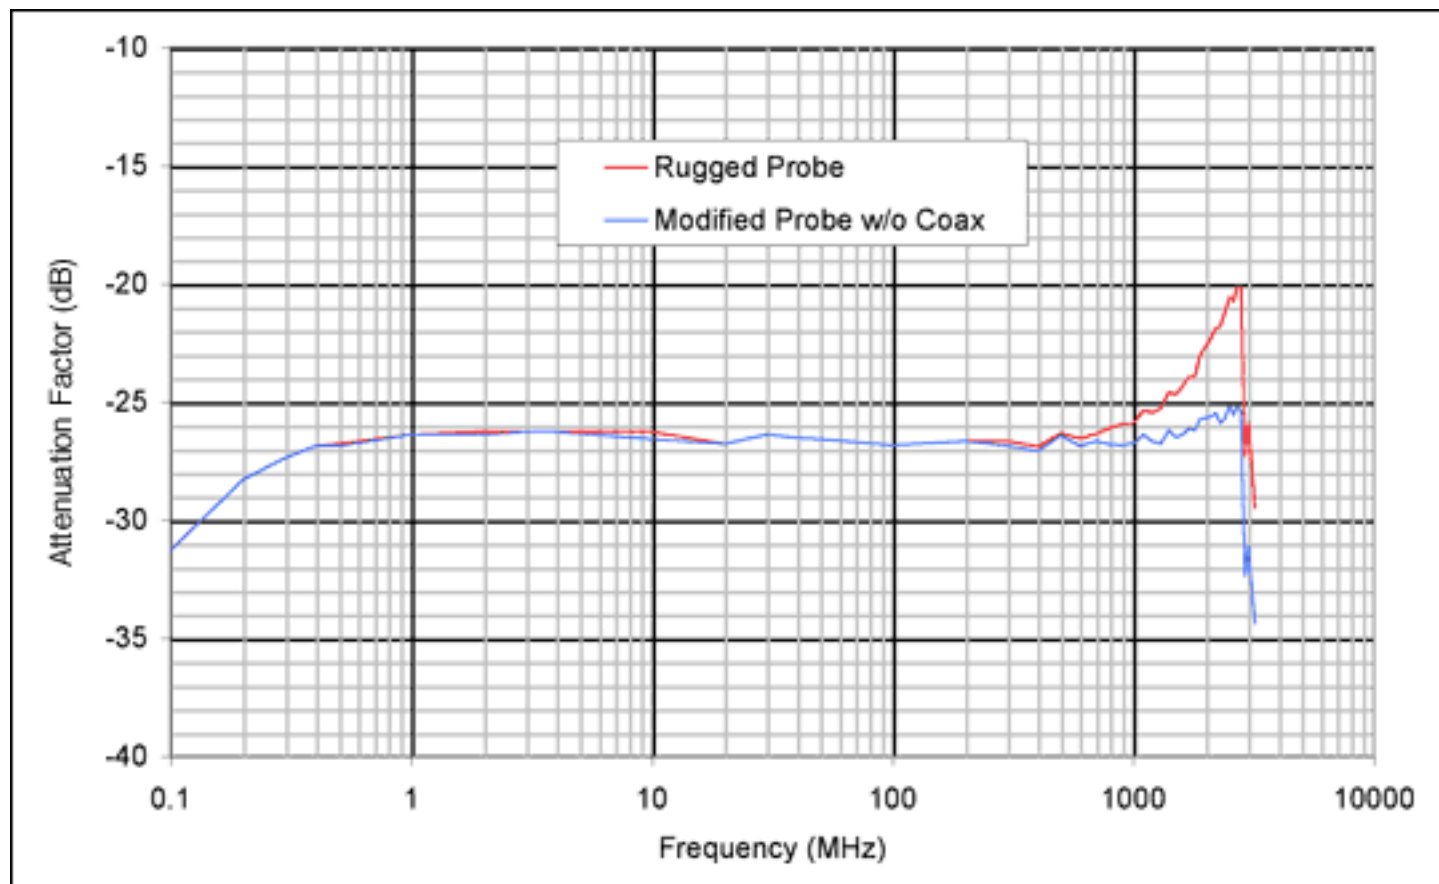

Figure 2. RF-probe frequency response when probing a 50Ω impedance point.
**Figure 2** shows that the probe's response flatness is 1dB from 400kHz to 1GHz. Resulting measurement error is
The measured power level at the SMA connector on the probe is theoretically -26.4dB below that at the probe tip, assuming a simple voltage-divider of 50Ω/1050Ω. This matches the plot in Figure 2 quite well between 400kHz and 1GHz. The frequency response in Figure 2 is obtained by probing across a 50Ω resistor connected across the output of a calibrated signal generator. Furthermore, an ideal 1kΩ probe loads a 50Ω circuit by only -0.2dB, assuming 1kΩ plus the 50Ω spectrum analyzer in parallel with the 50Ω circuit.